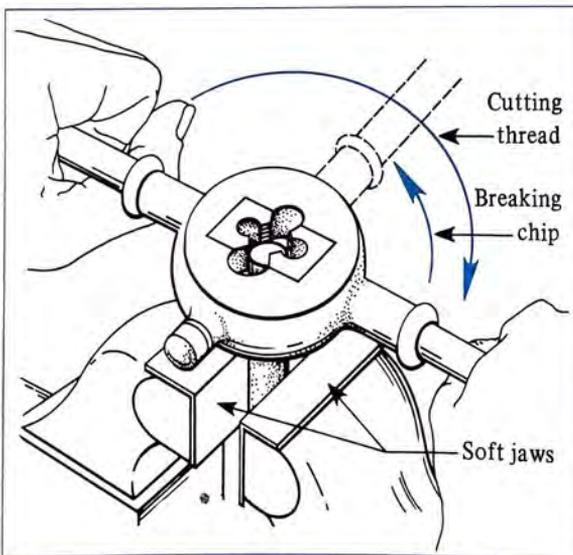

FIGURE 14-10 Cutting a Right-Hand Thread and Reversing the Stroke to Break the Chips
- STEP 3** Continue to apply a downward and circular force (Figure 14-10). Make two or three revolutions to start the first few threads. Back off the die. Check the threads for squareness and to see that they are started correctly.
Note: As in tapping, the cutting direction should be reversed every few turns (Figure 14-10). A reverse cutting action breaks the chips and clears them away from the work surface and die.